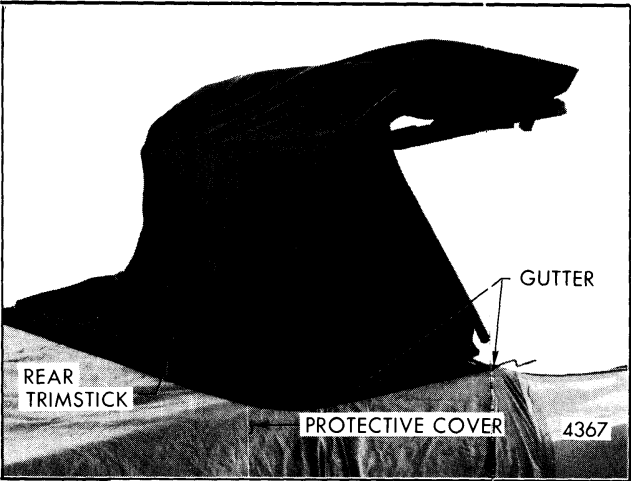

Fig. 8-59-Rear Trimstick on Rear Deck of Car
- C. Duplicate lifting operation on opposite side of body, and position center bow, rear trimstick and gutter assembly on protected rear deck of car (Fig. 8-59).